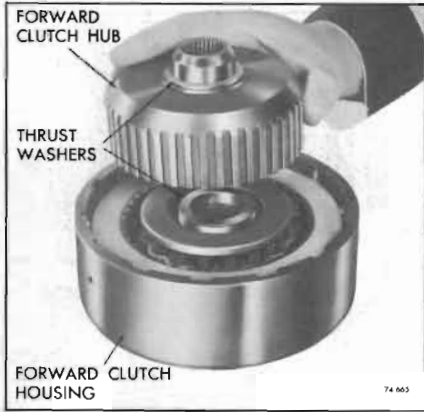

Figure 74-666
10. Place forward clutch hub into forward clutch housing and clutch plates. See Figure 74-666.